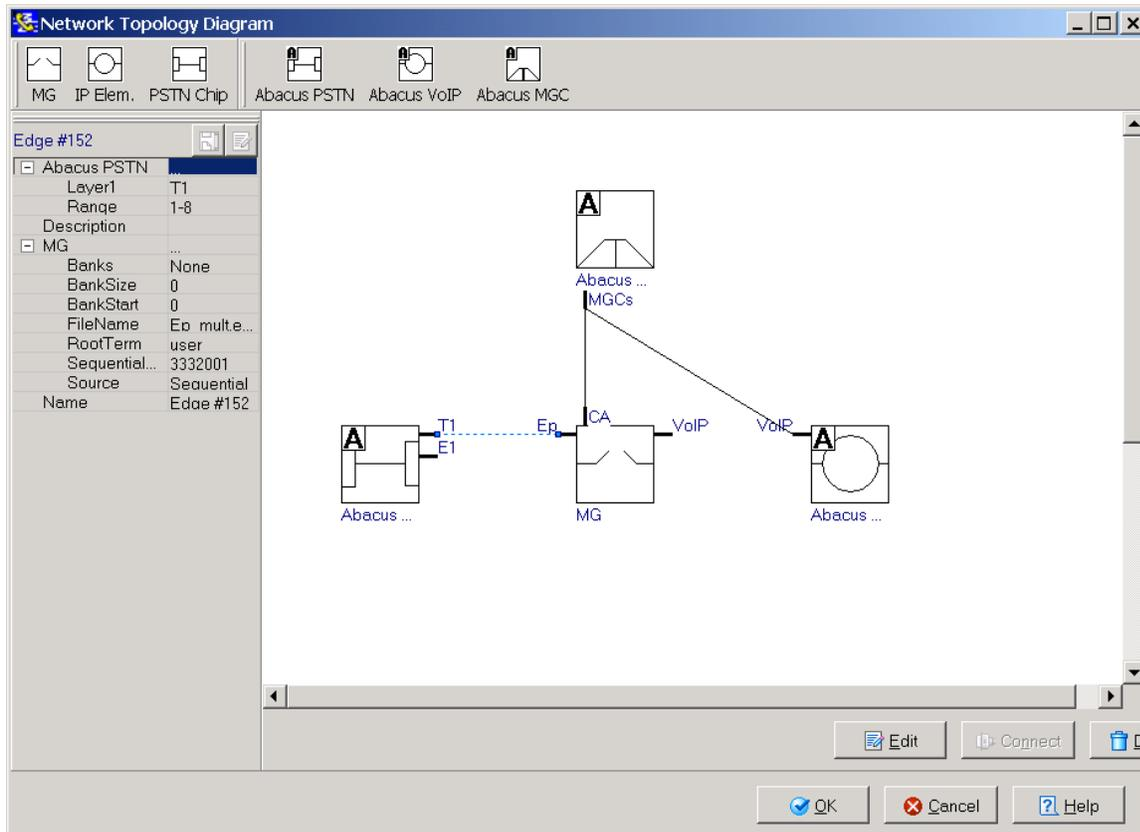

Figure 10. Network Topology Diagram Setup: Test Case 1
Refer to the Abacus representation of Test Case 1 in *Figure 10*. To create this configuration, we will perform the following steps:
- 1 In the icon bar, click **Abacus MGC**, **Abacus PSTN**, **Abacus VoIP**, and **(SUT) MG**. Abacus automatically places the elements as shown in *Figure 10*.
In *Figure 10*, the **Properties Viewer** shows properties of the connection between PSTN and MG.